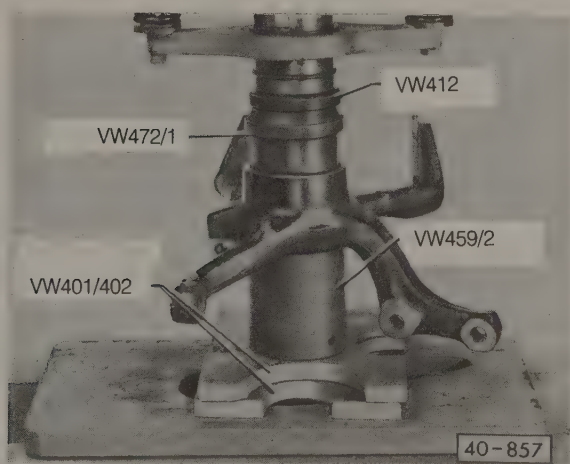

Fig. 5-27. New wheel bearing being pressed into wheel bearing housing. Press on outer bearing race only.
- Install a new circlip into the innermost groove in the wheel bearing housing. Lubricate the bearing seat with the molybdenum disulfide grease that is supplied with the new bearing, and press in the new bearing, as shown in Fig. 5-27, making sure to press only on the bearing outer race. Then install a new circlip in the outer groove of the housing.